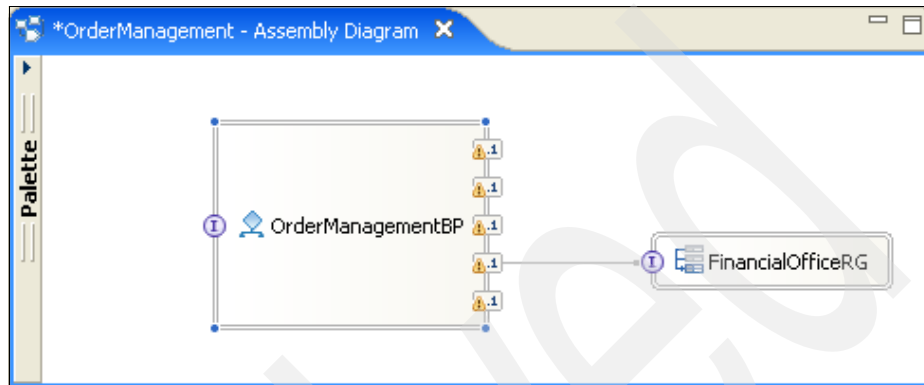

Figure 3-86 Assembly diagram with FinancialOfficeRG
13. Now, add the new rule to the assembly diagram (Figure 3-86):